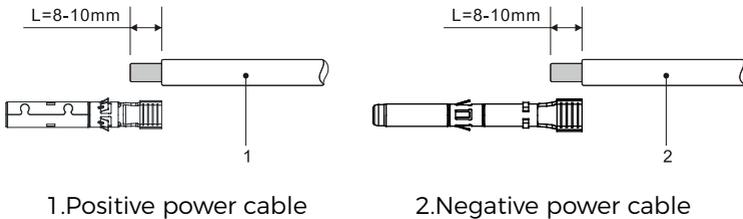

Figure 4-5 Connecting DC input power cables
2. Remove the insulation layer with an appropriate length from the positive and negative power cables by using a wire stripper as show in Figure 4-5.